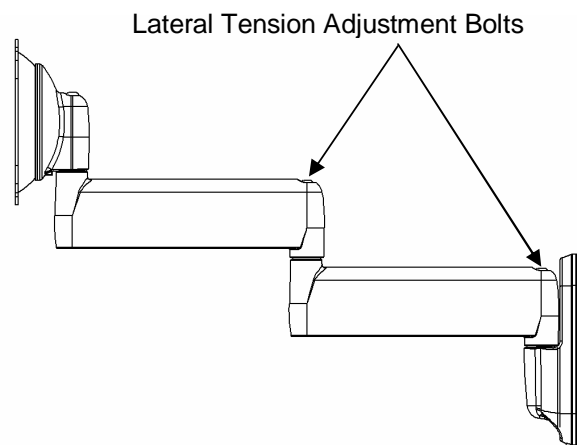

Figure 17. Adjust Lateral Tension
2. Using a 3/16" hex wrench slightly tighten or loosen lateral tension adjustment bolts (see Figure 17).